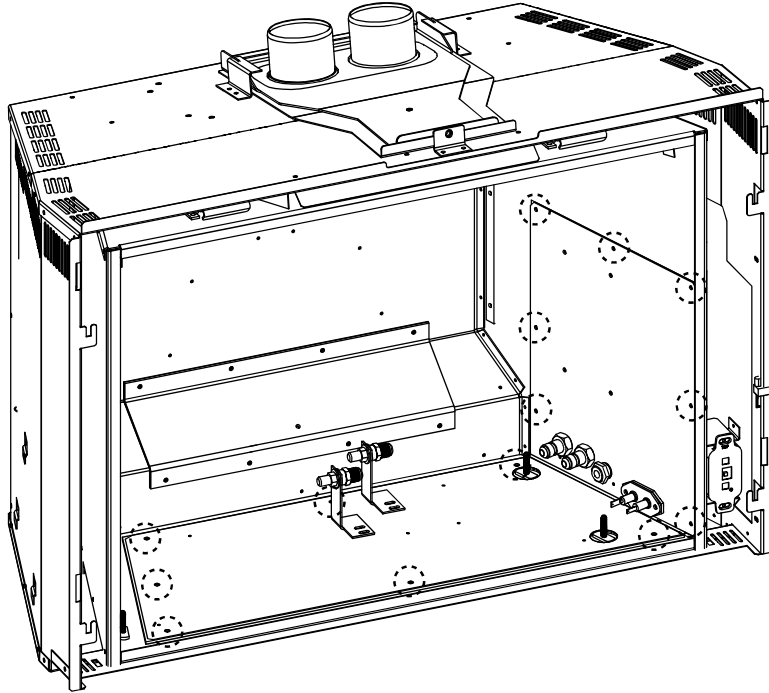

Fig. 7-2
- C. Remove the 14 screws holding the valve train in place (**Fig. 7-2**).